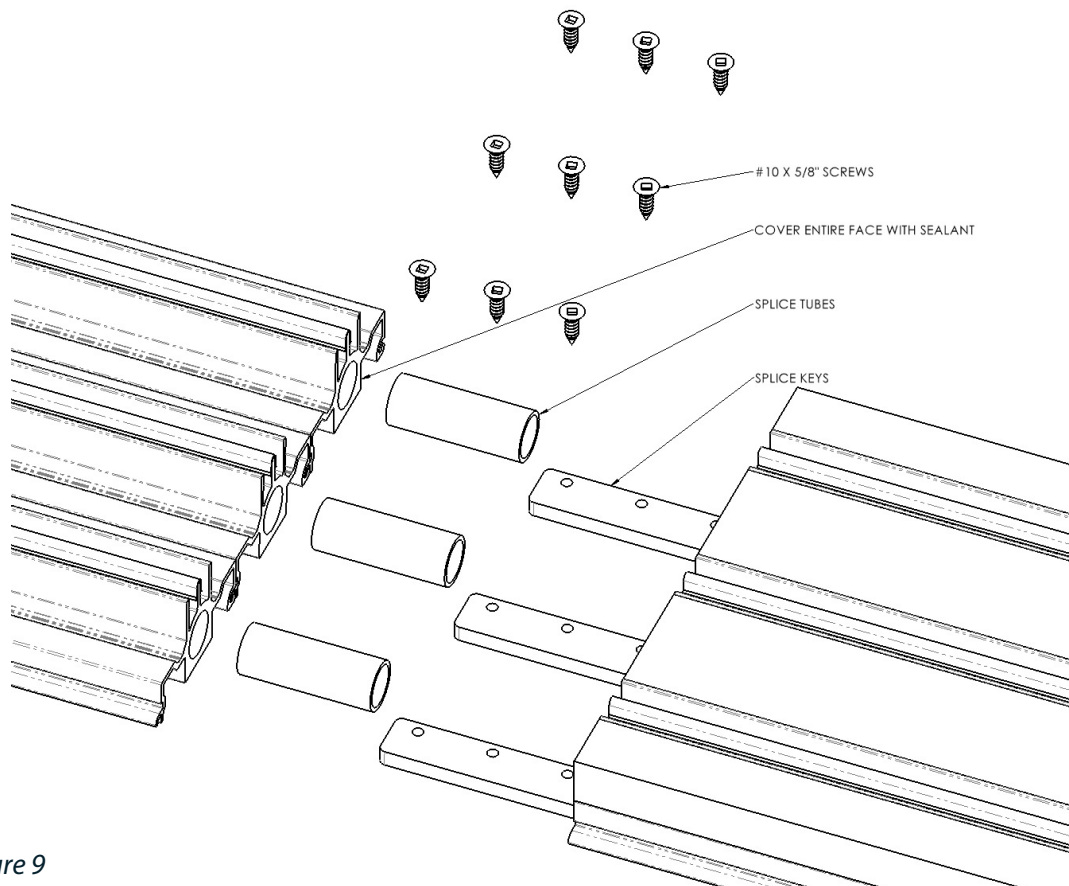

Figure 9
10. For all sill types longer than 238" will have a splice. At each sill splice push a splice tube into each track on the sill side with the factory installed splice keys and cover both side of the joining face with a layer of sealant. Push the two joining faces together. Guide the splice tubes into each track. Use #10 x 5/8" screws to affix the splice keys at each track. (See Figure 9).